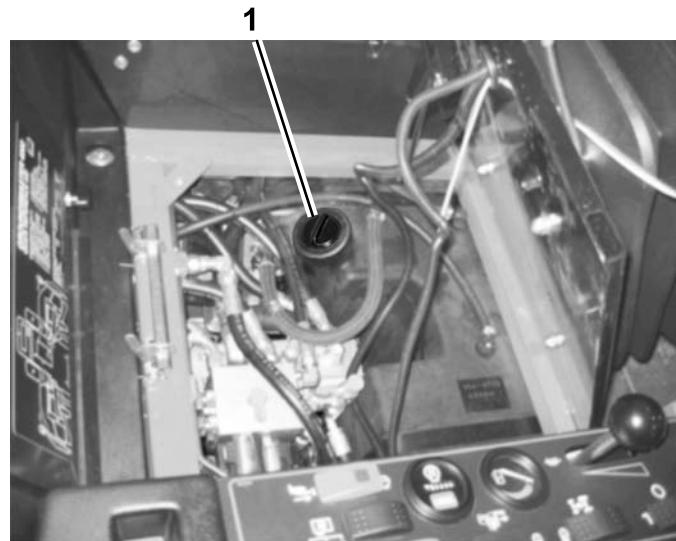

Figure 69
3. Fill the reservoir (Figure 69) with approximately 8 gallons (30 l) of hydraulic fluid; refer to Checking the Hydraulic Fluid.